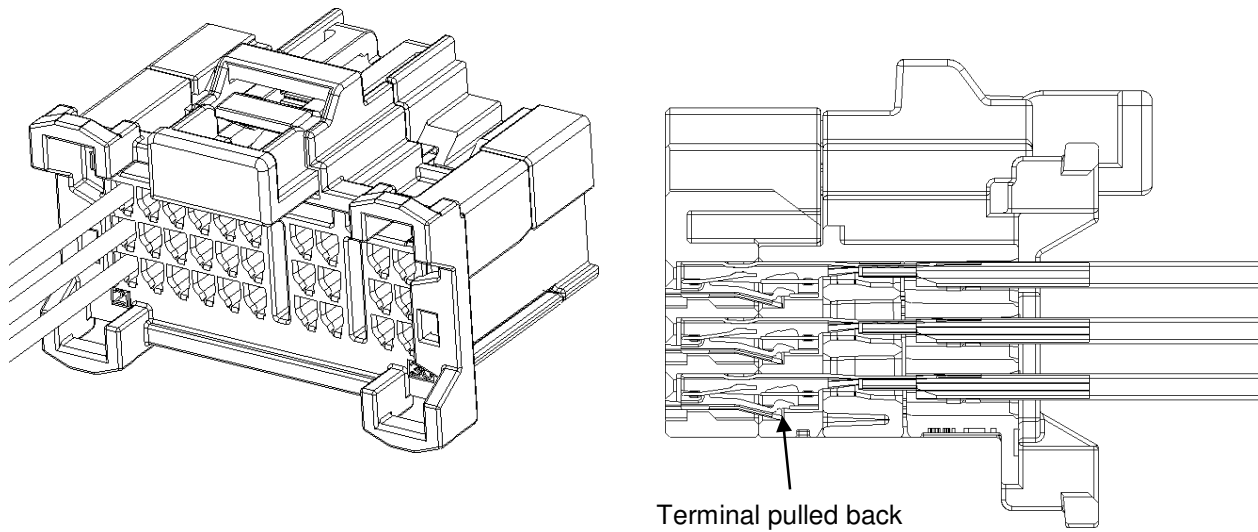

Figure 4
- 3.2.3. Each contact must be inserted into a contact cavity until the primary locking lance on the contact is fully seated. See Figure 4. (There should be an audible and tactile click which indicates that the contact has been fully inserted.) Pull back gently to ensure the contact has been locked in place.